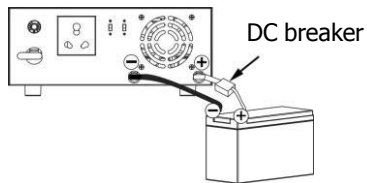

Fig. 1
**Step 1-** Install a DC Breaker in a positive battery line. The rating of the DC Breaker must be at least 60Amp to guarantee safe operation without interruption. Keep the DC breaker off. (see Fig. 1)
**1) Single battery connection (Refer to Fig. 1):** When using a single battery, its voltage must be equal to the Nominal DC Voltage of the unit (see below Table 1).